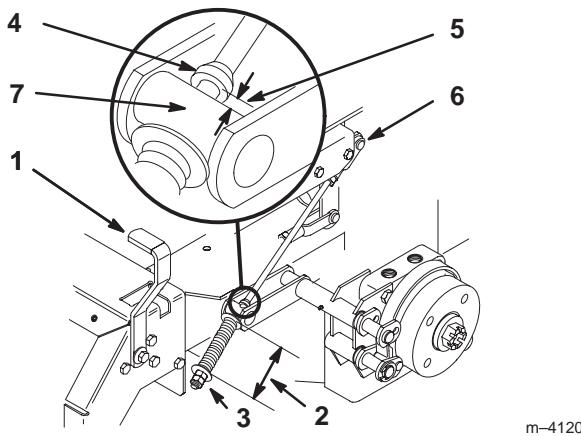

Figure 49
2. Measure the length of the spring. Measurement should be 2.75" (70 mm) between washers (Fig. 49).
3. If adjustment is necessary, loosen the jam nut below the spring and tighten the nut directly below the yoke (Fig. 49). Turn the nut until the correct measurement is obtained. Tighten the two nuts together and repeat on opposite side of unit.
6. Measure the distance between the trunnion roller and the collar on brake rod. Measurement should be 3/16"-1/4" (5-7 mm) (Fig. 49).
7. If adjustment is necessary, loosen the jam nut directly below the yoke. Turn the bottom adjusting nuts until the correct measurement is obtained (Fig. 49). Tighten jam nut at yoke.